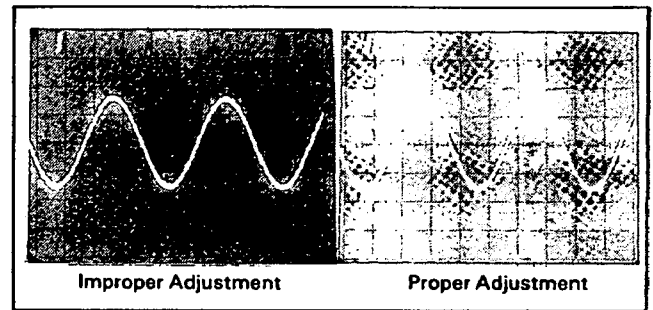

Figure 5-7. Oscillator Output Adjustment.
- g. Adjust A2R113 (T.O. MIXER BALANCE) for the cleanest signal. See Figure 5-7.